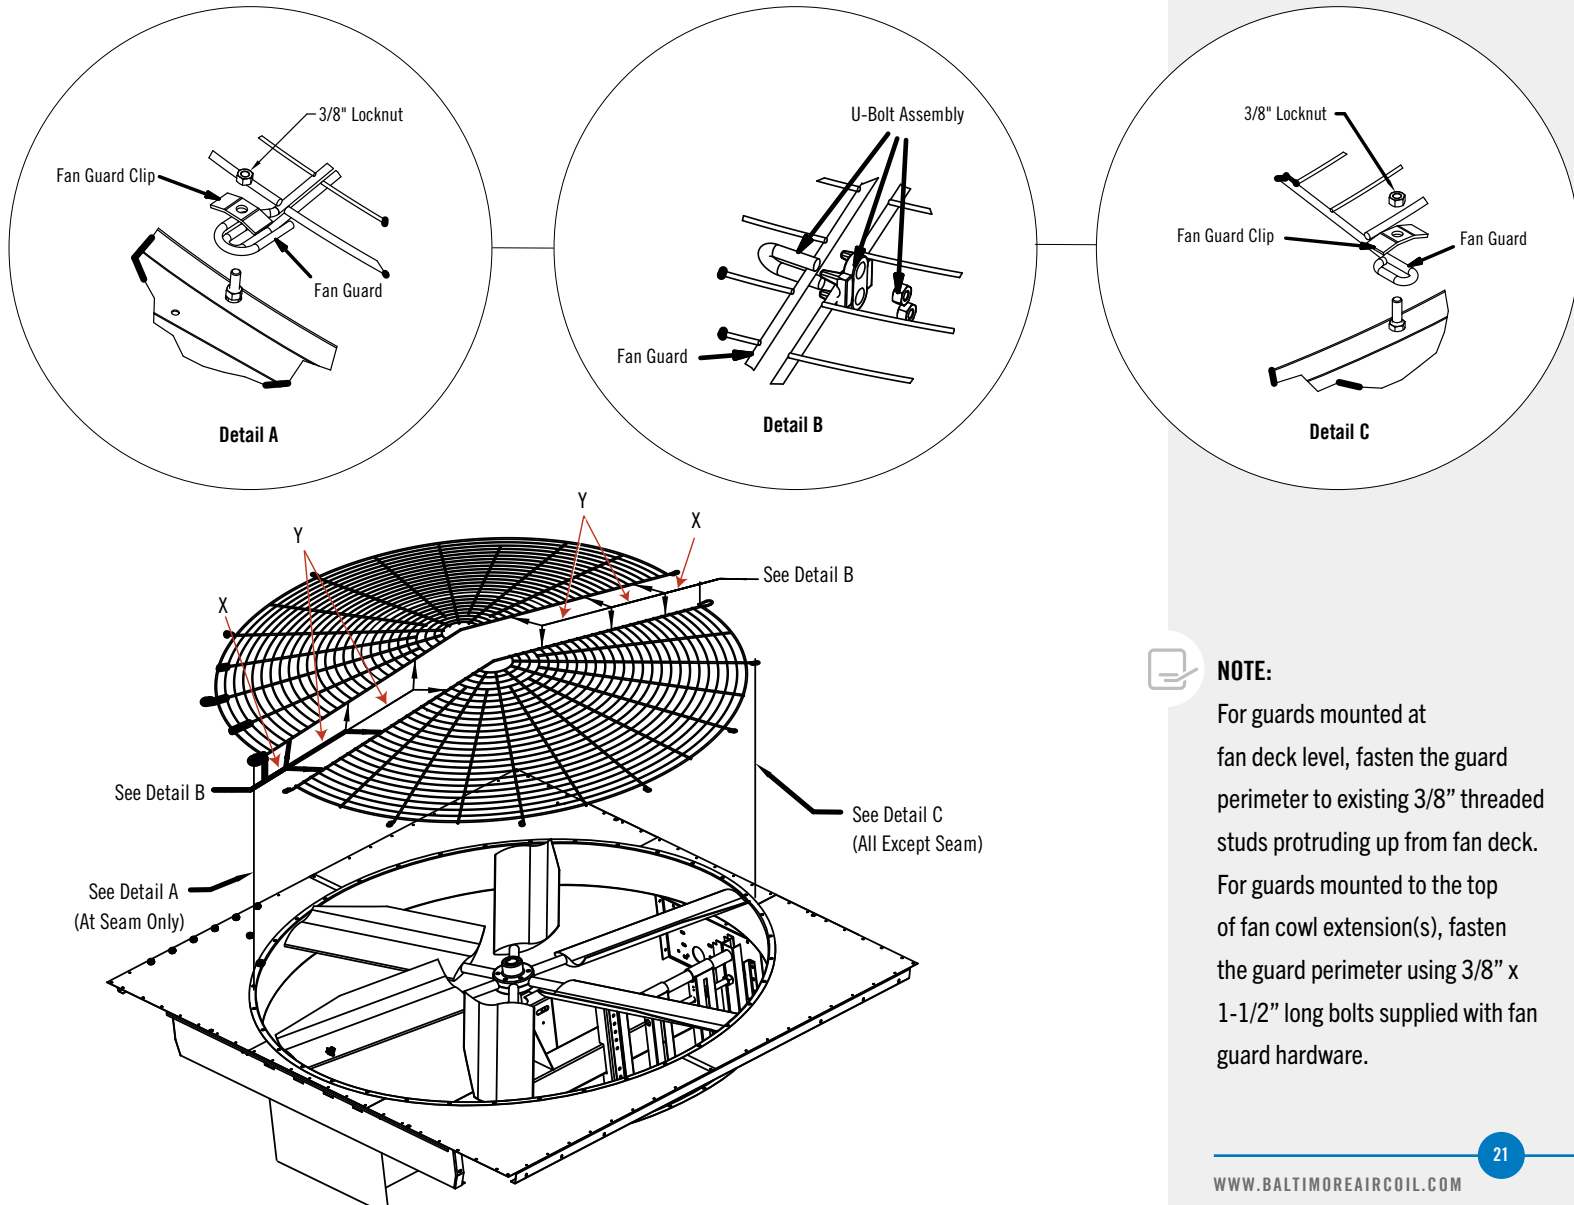

Figure 7. Two-Piece Fan Guard Assembly
- Using six U-bolt assemblies, fasten the two halves of the fan guard together as illustrated in **Figure 7, Detail B**. Locate the U-bolt assemblies along the seam between the two guard halves per the X and Y dimension provided in **Table 7**, which are based on the diameter of the supplied fan.
- Mount the fan guard to the unit as illustrated in **Figure 7, Detail A** for the ends of the seam where the two guard halves join together, and **Detail C** for all other locations around the fan guard perimeter.